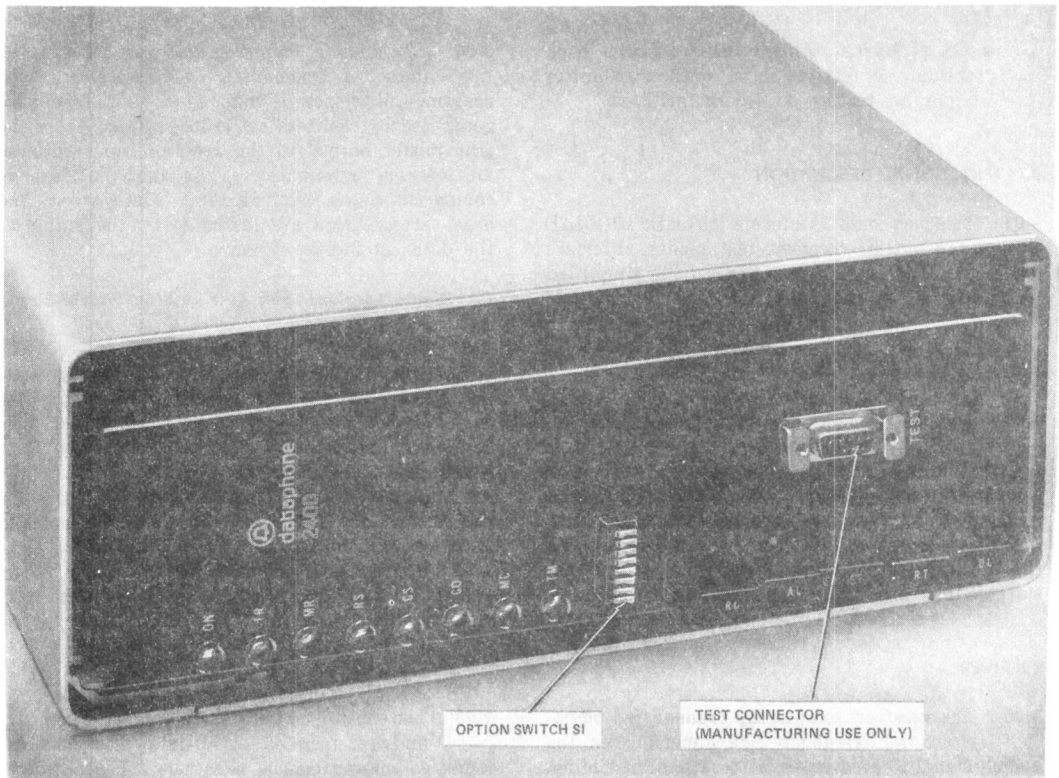

Fig. 3—DS 201C-L1D/2/4/5—Front Cover Removed
**2.03** Eight status indicators (Fig. 3) are provided on the data set to monitor the power unit, certain interface leads, and the test switches. These status indicators consist of light emitting diodes (LEDs) that illuminate translucent designations on the data set front cover. These designations identify the functions being monitored. The